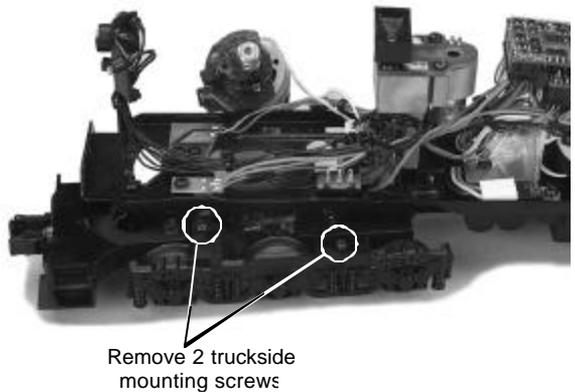

Figure 8. Locations of Truckside Mounting Screws
B. Remove the trucks from the chassis and the truck sides from the trucks in order to slip the new tire over the grooved drive wheel. See Fig. 8 for which screws you must remove to do this. Remove screw in Motor Mount to free trucks (see Fig. 7 on pg.13)